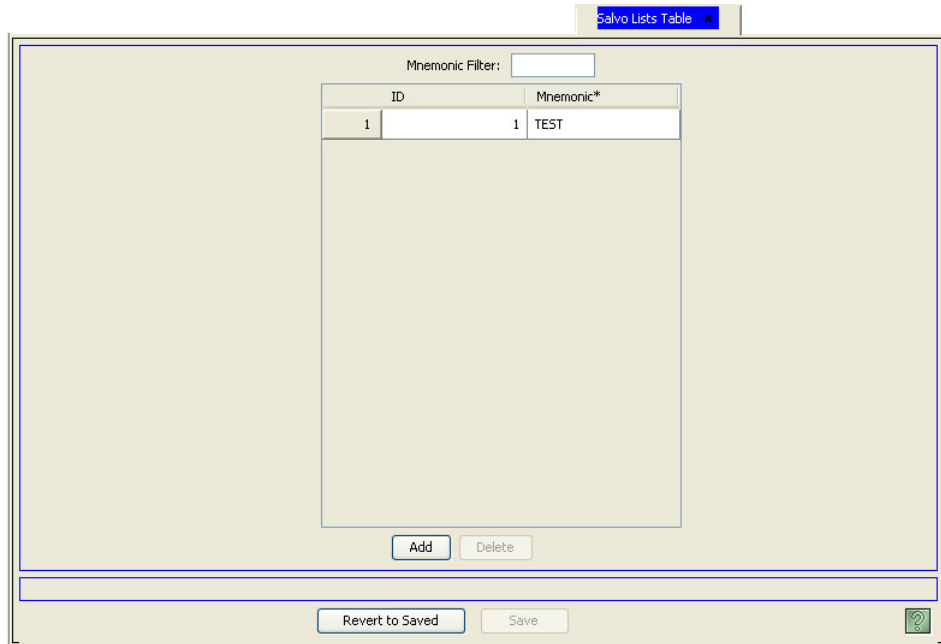

Figure 15-14. Salvo List Table
- 1 From the Navigation area, select the 'Views' pane and then 'Salvo List'. The 'Salvo List' table appears, as shown in Figure 15-14.